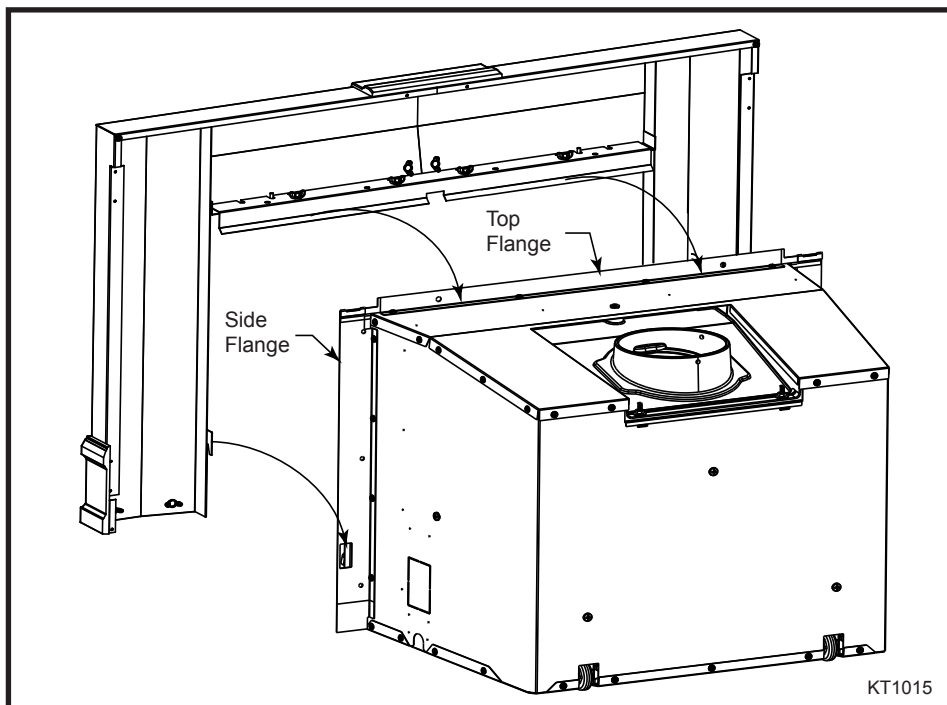

Fig. 9 Lift surround up and over top flange and up and through side flange holes.
2. Position the surround in front of the insert and with the help of an assistant, gently lift the surround up and over the top sheet metal flange, at the same time, align the bottom brackets through the slots on the side flanges. (Fig. 9)
3. Adjust the surround, left to right, so there is an equal reveal on either side. Secure by applying downward pressure until the brackets have engaged onto the insert. (Fig. 9)